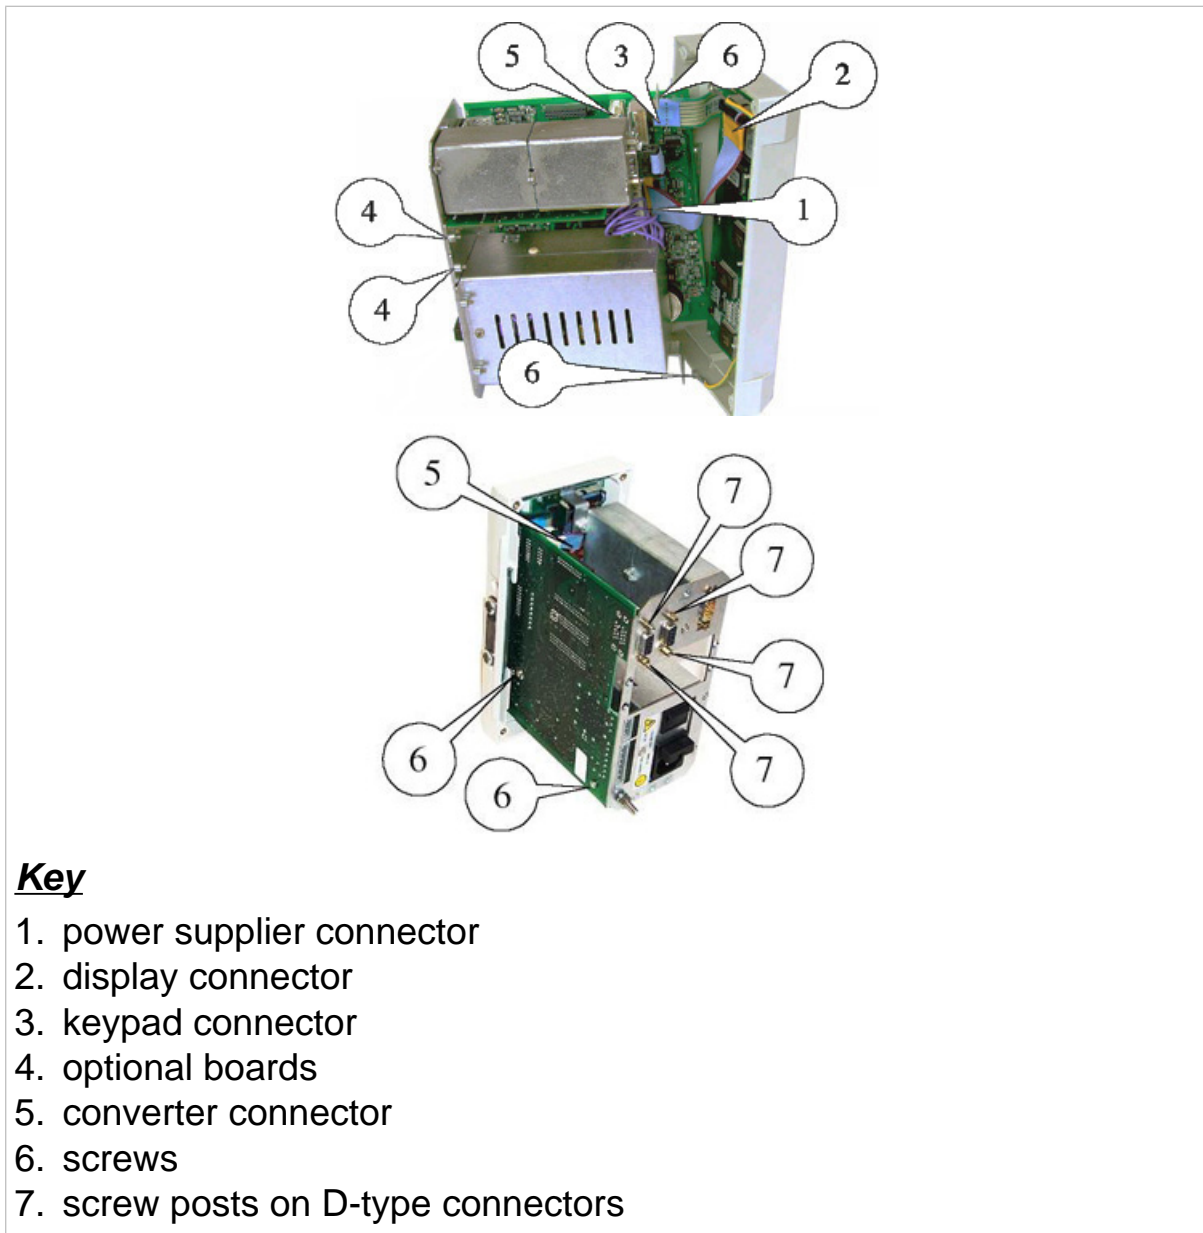

Figure 13.6 - Removal of the CPU (log0112.jpg)
- ✓ disconnect the connectors (points 1, 2, 3, 5 of *fig. 13.6 on page 3-12*);
- ✓ unscrew the screws (points 6 of *fig. 13.6 on page 3-12*) and screw posts (points 7 of *fig. 13.6 on page 3-12*).